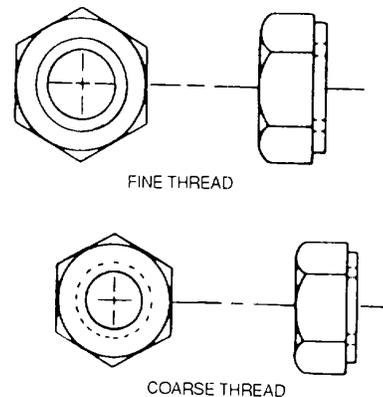

Figure 2-25. Light Hexagon Nuts
e. Light Hexagon Nuts. Use MS35649, MS35650, and MS35690 light hexagon nuts, as shown in figure 2-25, in miscellaneous nonstructural applications. An auxiliary locking device should be used with these nuts.